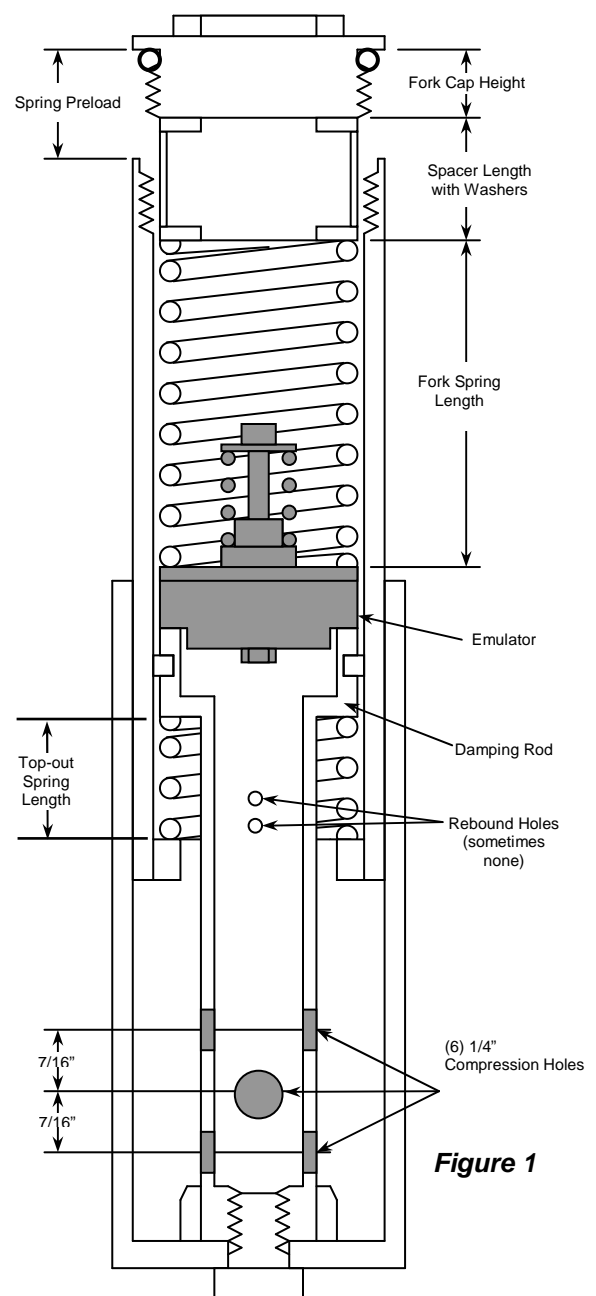

Figure 1
- 3 Drill additional compression holes in the damping rod. No matter how many compression holes come stock, you must end up with six 1/4 inch (6mm) holes (3 sets of 2 holes) (see figure 1). Drill the existing holes larger and, when necessary, add additional holes. If you are drilling new holes, space them lengthwise at 7/16" (10mm) increments. Each set of two holes must be perpendicular to the last set so as not to weaken the rod (Fig 1). After drilling, chamfer and deburr the compression holes, inside and out. Do not modify the rebound holes.
(see figure 1) Extend the fork all the way. Install the Emulator by dropping it down the fork tube. It will sit on top of the damping rod with the Emulator Valve Spring facing up. Visually check to make sure the Emulator is sitting squarely on top of the damping rod or the adapter.
Install the spring. Place both spring washers on top of the spring temporarily. Use a tape measure to record the distance from the top of the fork tube down to the top of the spring washer (Distance "A" Figure 1). Measure the fork cap height. This is the distance from the bottom of the sealing lip (the point that touches the top of the tube when the cap is tightened) to the bottom of the cap (where the spring touches). Subtract this distance from Distance "A". The result is the required length of the spacer for zero preload. Add 1.0 inches (25mm) to this length to determine the length of PVC spacer. (Hint: Correct Preload Spacer will come to top of fork tube +/- in most cases)
Cutting the spacers can best be accomplished with a tubing cutter available at hardware stores. Washers must be installed on both ends of the spacer. The spacer must not rest on the spring or the cap directly. Double check your preload by stacking the spring, spacer, washers and cap and measuring the distance from the sealing lip on the cap to the top of the fork tube (see Figure 1).